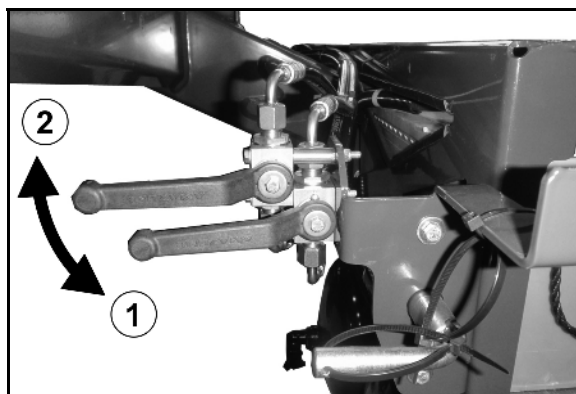

Fig. 23
- Open the shut-off valves on the hydraulic block (Fig. 23/1).
- Close the shut-off valve (Fig. 23/2):